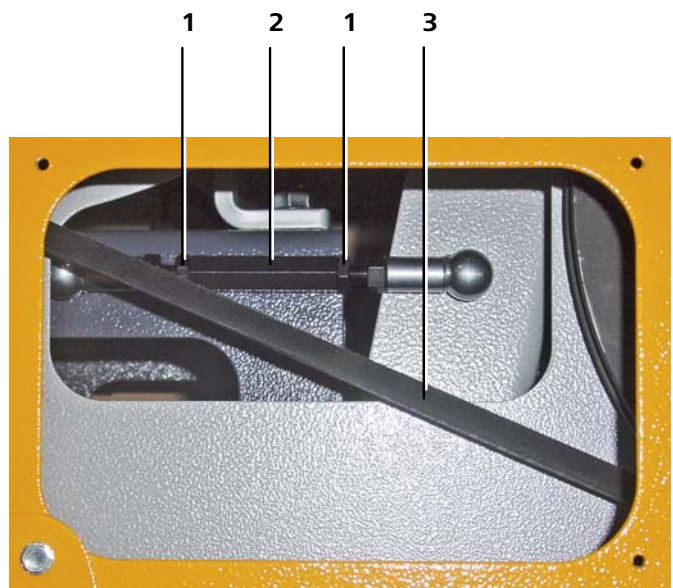

Fig. 52 Einstellen der Keilriemenspannung
- Loosen the counter-nuts of the turnbuckle (1, Fig. 52).
- Tighten the motor plate by turning the hexagon (2) until correct tension of the v-belt (3) is achieved.